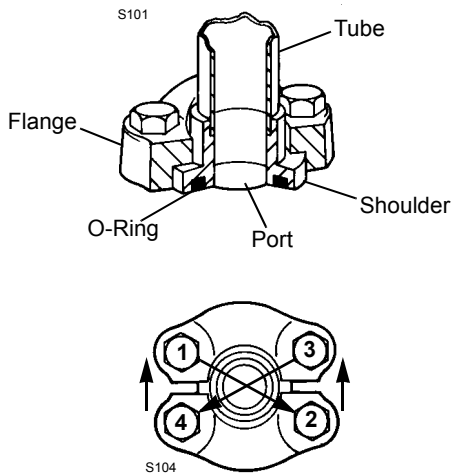

Figure 2-22. Split Flange Connection
1. Lubricate and install the O-ring in the shoulder groove (see Figure 2-22). Align the shoulder with the port and assemble the flanges over the shoulder.
2. Snug the bolts in a diagonal manner (Figure 2-22) to 1/3 of the torque given in Table 2-7.